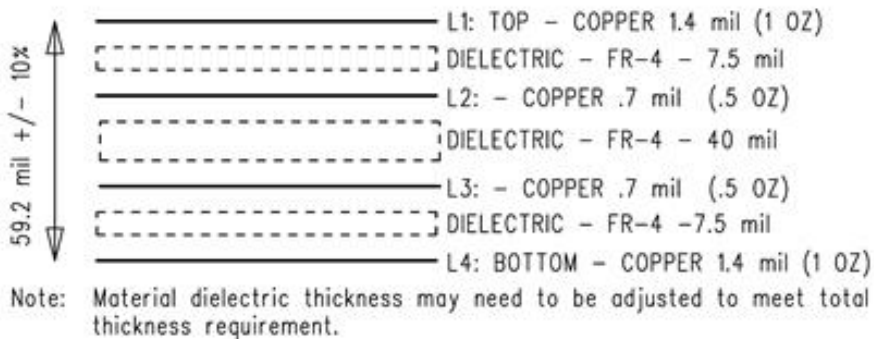
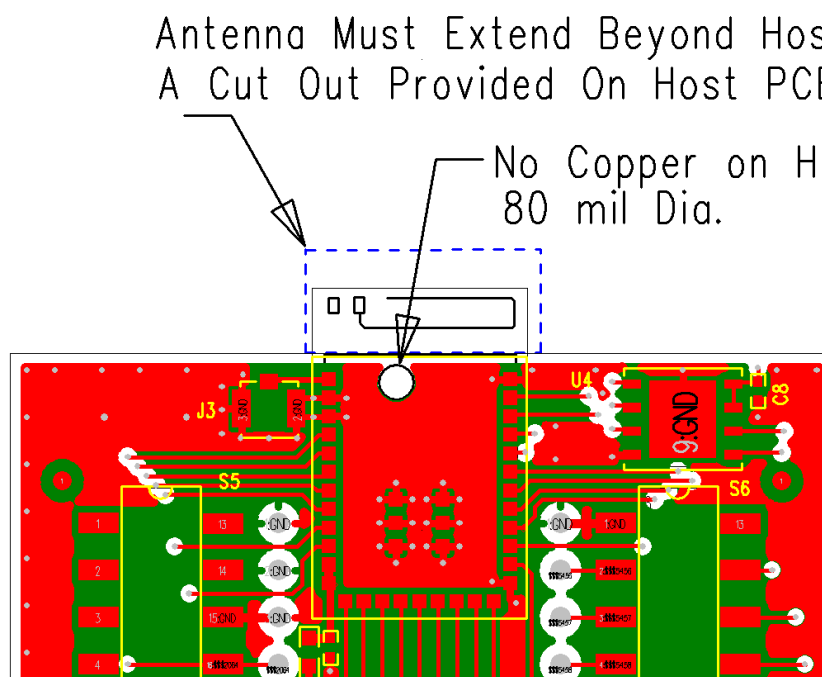
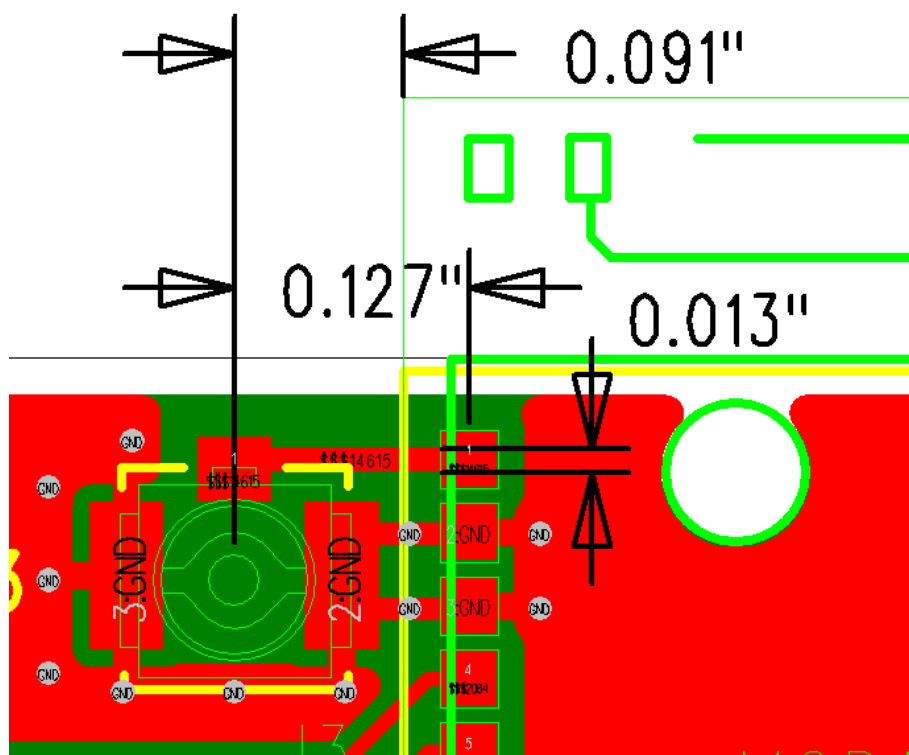
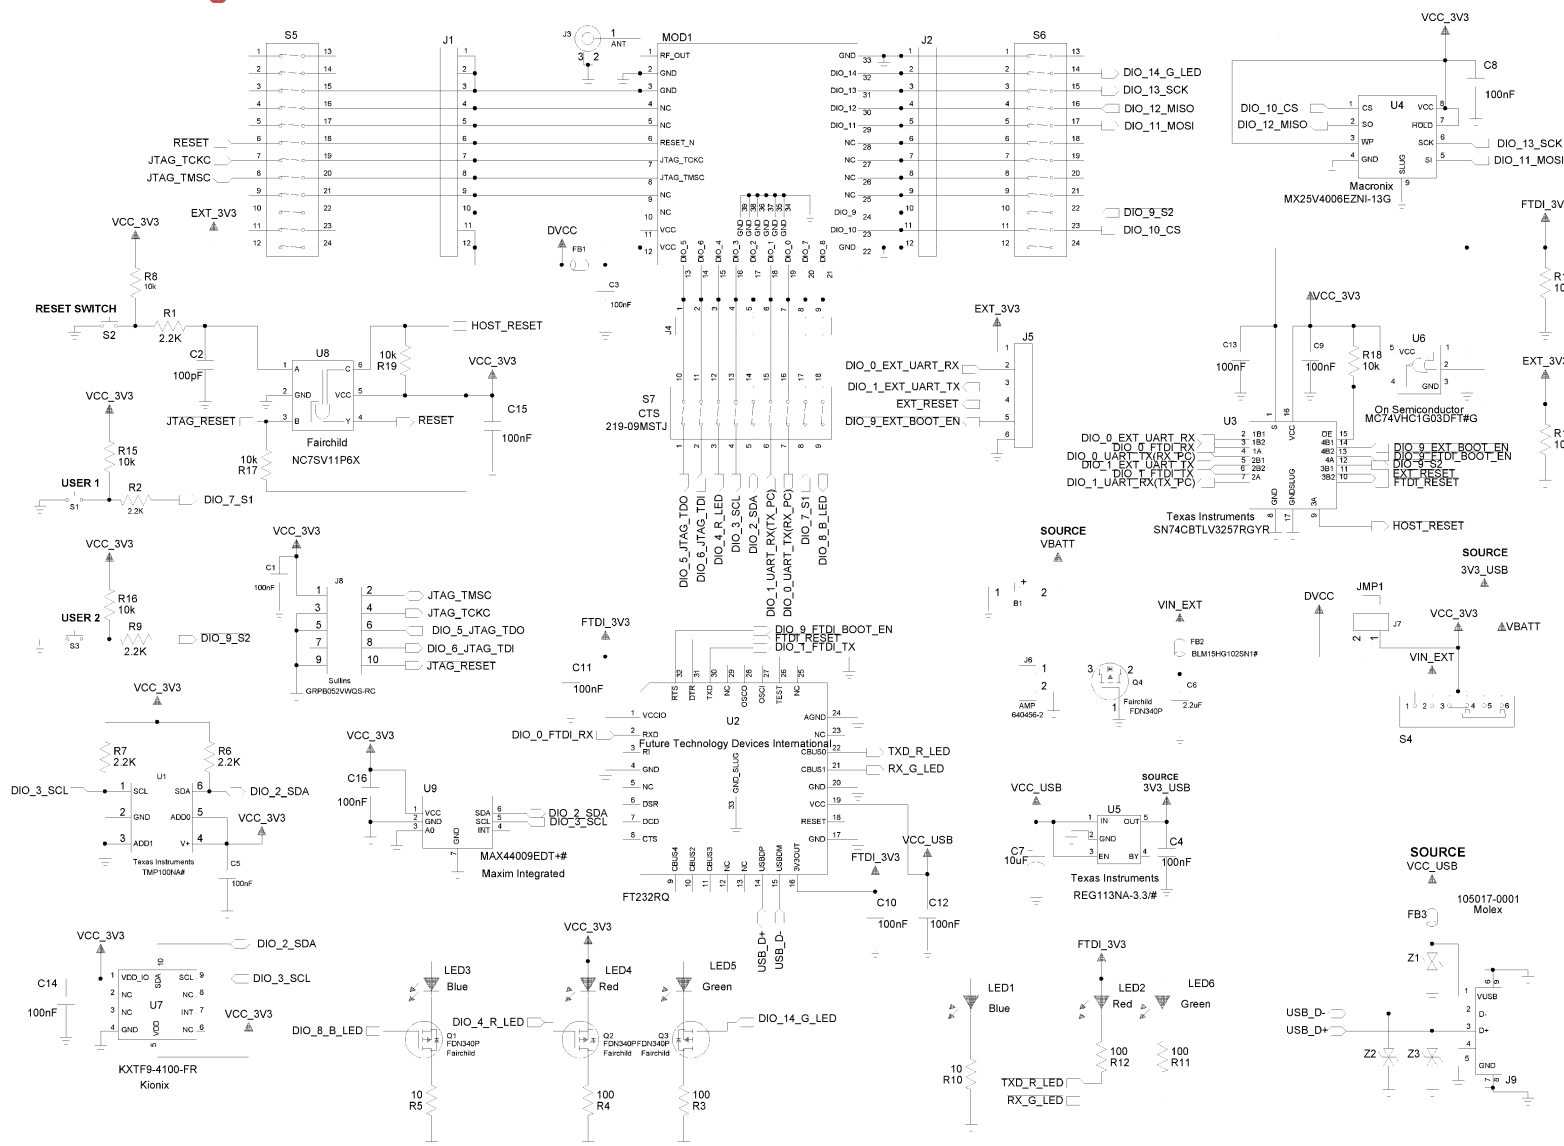

Figure 4 Reference Design PCB
Figure 5 Host PCB Details
Figure 6 External Antenna Connector and Host PCB RF Trace Details
Figure 7 Reference Design Schematic
In order to use the modular certification for your design, it is critical that the reference design is correctly followed. The full PCB reference design is shown in Figure 4, Schematic Figure 7, and Bill of Materials Table 9. It is not required to replicate the entire design, but what is required is the circuitry and layout as it pertains to the antenna configuration as shown in Figure 5 and Figure 6.
When using the PCB Trace Antenna version of the module (Part Number 450-0119), the PCB layout shown in Figure 4, Figure 5, and Figure 6 should be followed. It is acceptable to keep the U.FL circuitry J3, or it may be removed from the PCB to save component cost. By keeping the external U.FL circuitry, the design can accommodate both antenna versions of the module. To minimize the influence of de-tuning to the module PCB trace antenna, it is recommended to extend the antenna end of the module off the edge of the host PCB. Another alternative is to have a cutout notched in the host PCB such that there is no PCB underneath the antenna end of the module.
When using the External Antenna Port version of the module (Part Number 450-0144), and one of the three certified 2.4 GHz antennas (Dipole Antenna and U.FL to RPSMA Cable, FlexPIFA, or FlexNotch), the PCB layout shown in Figure 4 should be followed. The U.FL connector J3 must be populated, and a controlled impedance microstrip trace ran between the module RF output pad and the U.FL connector as shown in the Reference Design PCB Figure 4, Figure 5, and Figure 6) and the Schematic Figure 7.
Note the “No Copper” keep out requirement on the host PCB shown in Figure 5 above.
3. The ground plane from the host PCB, and metal of any type, should be kept a minimum of .5" from the antenna circuitry to the left, top, and right of the dashed line shown in Figure 5.